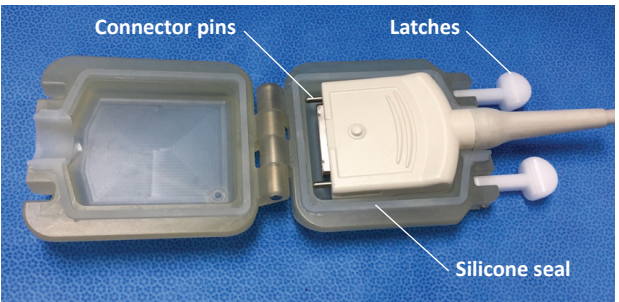

Figure 1-7: Sonata IUUS Probe Connector Protector securely closed over the IUUS Probe Connector
- Press down and engage both latches fully, Figure 1-7.**